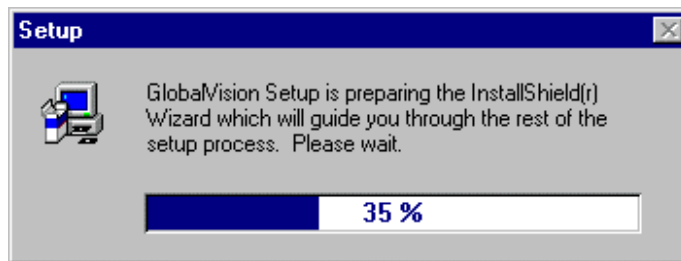

Figure 7 – Loading InstallShield® Wizard screen
4. The SETUP.EXE program loads all installation programs and files into **the INSTALLSHIELD® WIZARD**, which guides the rest of the installation. The INSTALLSHIELD® WIZARD SETUP screen and GLOBALVISION MARQUEE appear briefly before any installation is started. See Figures 7 and 8.